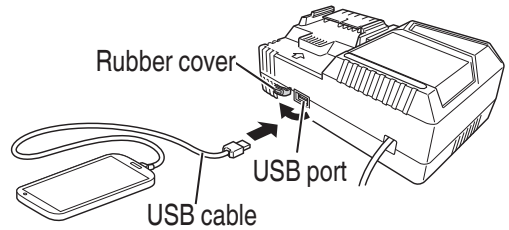

Fig. 9
- (2) Connect the USB cable. (Fig. 9)